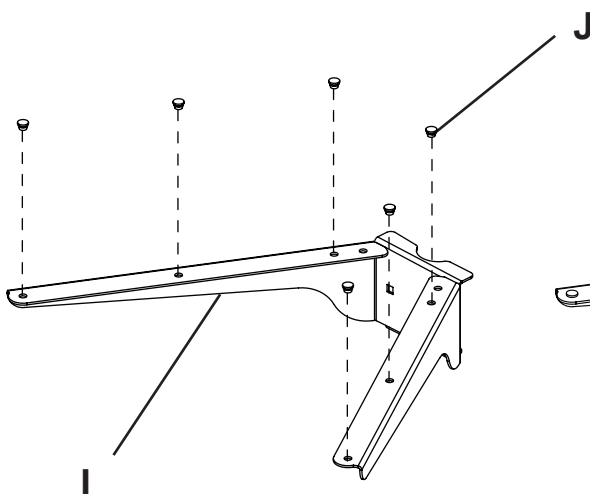

Figure 2.2
Press six button bumpers (J) into shelf support (I) as shown in figure 2.2.